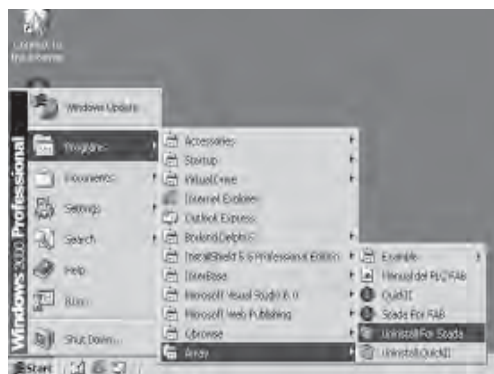
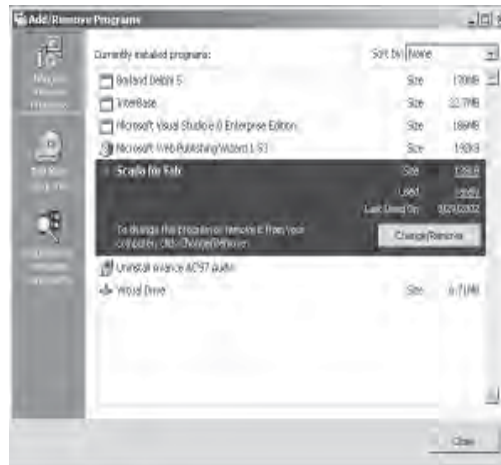

Fig. 2-8 Installation System 1
Fig. 2-9 Installation System 2
Step 7. Uninstall the system. This task needs to be run when the system is not needed or the system does not work normally. (Certainly, data need to be backed up before the uninstallation. As to backup, we will explain further in the following chapters). Click 'Setup' | 'Control Panel' in Fig. 2-8, and then click 'Installation' | 'selete to enter the interface in Fig. 2-9. Select 'SCADA for FAB' | 'Setup while installation) in the Listing Frame and then click 'Add/Delete'.